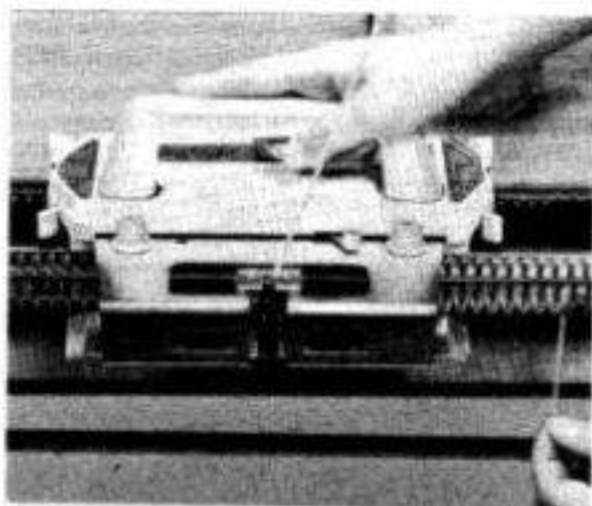

Fig.30
- (c) Holding down the loose end of the wool directly below the carriage feeder, move the carriage slowly from the right to the left across the working needles. (Fig.30)